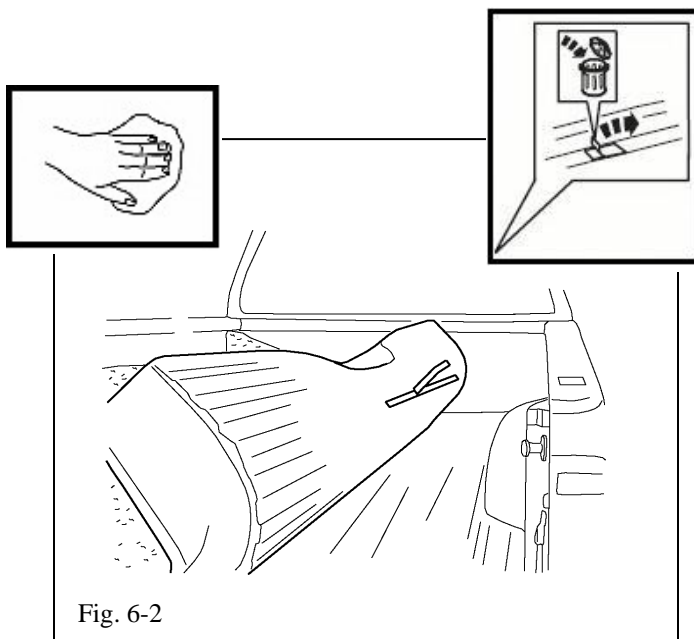

Fig. 6-2
- (e) Remove the film. (Fig 6-2)